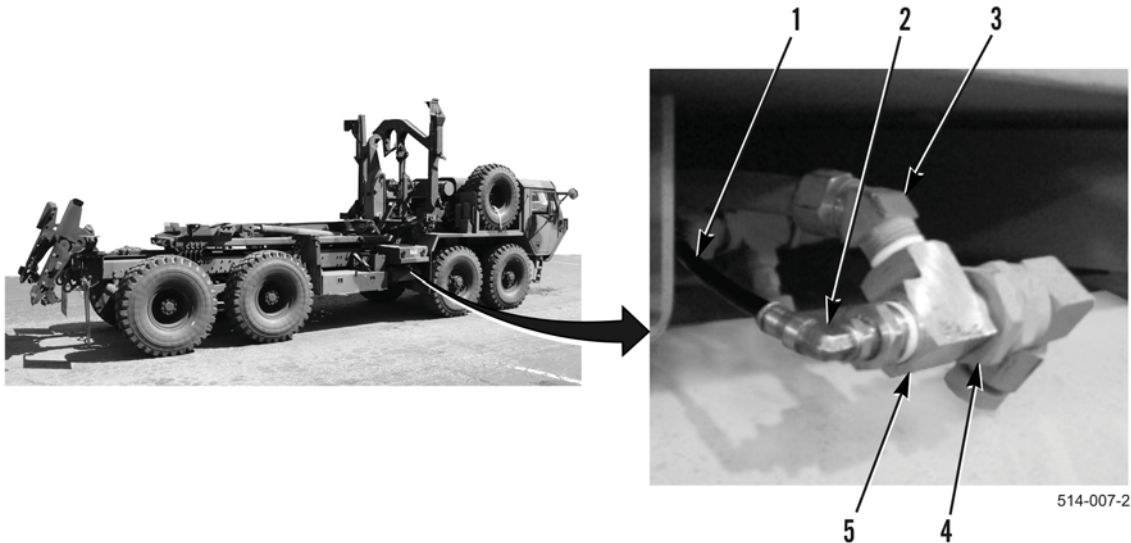

Figure 16. HEMTT M1120A4 Pneumatic Fitting and Hose Installation.
48. Remove hose fitting (Figure 16, Item 3) from tank fitting (Figure 16, Item 4).
49. Apply thread tape on T-fitting (Figure 16, Item 5) and install T-fitting on tank fitting (Figure 16, Item 4).
50. Apply thread tape on hose fitting (Figure 16, Item 3) and install hose fitting on T-fitting (Figure 16, Item 5).
51. Cut air hose (Figure 16, Item 1) to fit and install on pneumatic fitting (Figure 16, Item 2).